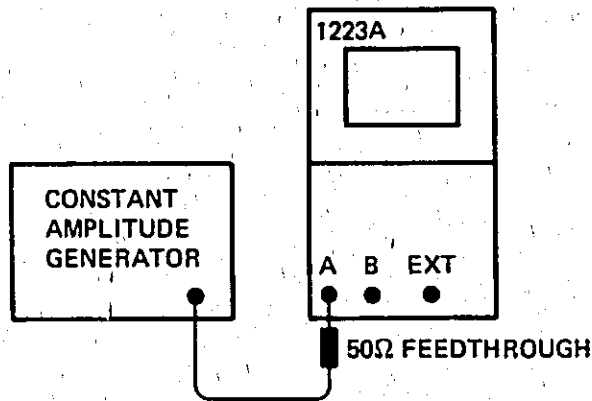

Figure 4-4. Vertical Bandwidth Test Setup.
1. Connect the Constant Amplitude Generator to the 1223A as shown in Figure 4-4 and set the 1223A controls as follows: